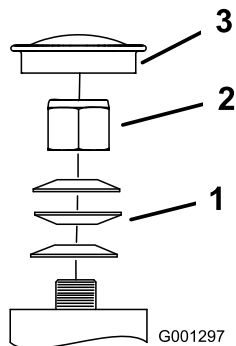

Figure 40
3. Remove the dust cap from caster and tighten lock nut (Figure 40).
4. Tighten the locknut until the spring washers are flat and then back off a 1/4 turn to properly set the pre-load on the bearings (Figure 40).
Important: Make sure spring washers are installed correctly as shown in Figure 40.
5. Install the dust cap (Figure 40).